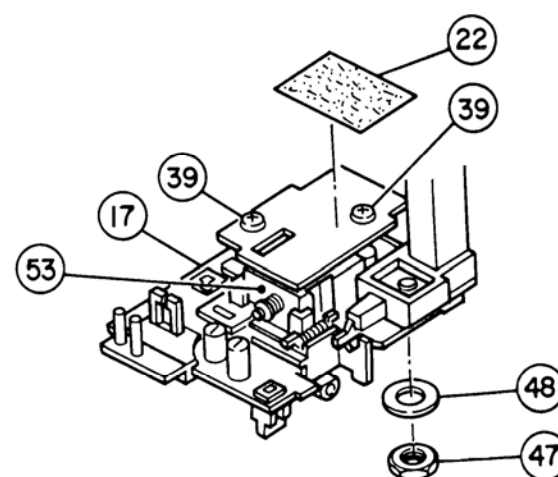

Figure 7
**(D) Removal of the Tone Arm (HD301) (Figure 7)**
- Remove the sheet (22) located above the Sensor P. C. Board which is fastened to Bracket Assembly (17).
- Remove the 2 screws (39) that fasten the Sensor P. C. Board.
- Remove the solder from the terminal of the solenoid coil (53).
- Take off the hexagonal nut (47) and the washer (48), then remove the Tone Arm Assembly (HD301).